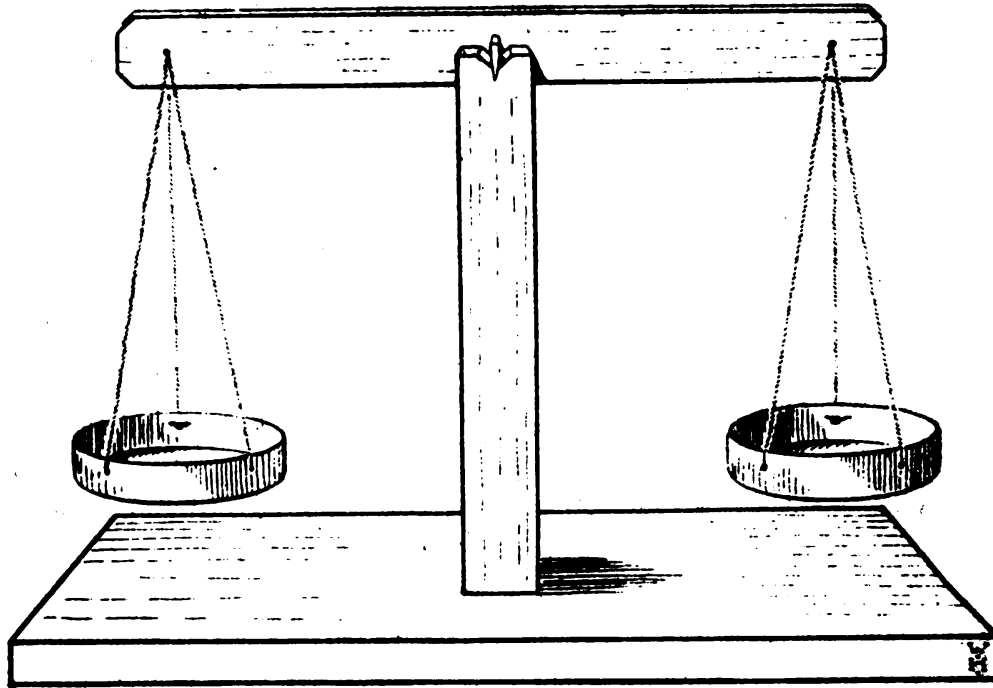

FIG. 72.
there are generally these parts : (1) a balancing arm, generally called the beam ; (2) an upright standard on which the beam is supported ; (3) two scale pins, and chains (or strings) to suspend them ; (4) a base board to which the upright standard is fixed. Fig. 72 shows the sort of thing we mean.